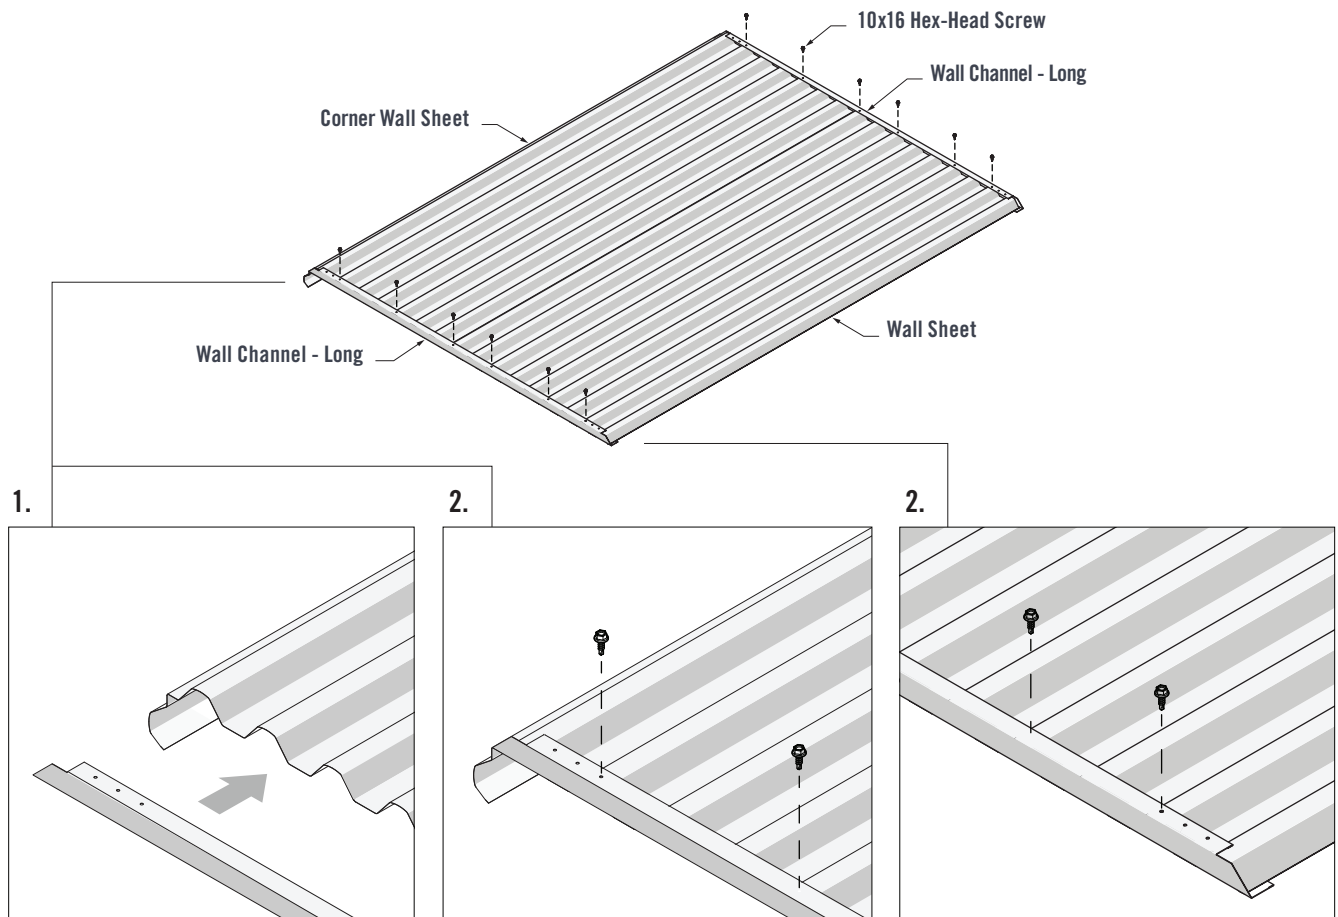

FIGURE 3.2
1. Fit the Wall Channel (Short) over the lapped Wall Sheets. The end of the Wall Channel should fit up against the end of the Corner Wall Sheet (Figure 3.2).
2. Fasten through the third pilot hole of both Wall Channel ends and into the Wall Sheet crests. Fasten through the Wall Channels and into the third Wall Sheet crest using four 10x16 Hex-Head Screws in each Wall Channel (Figure 3.2).